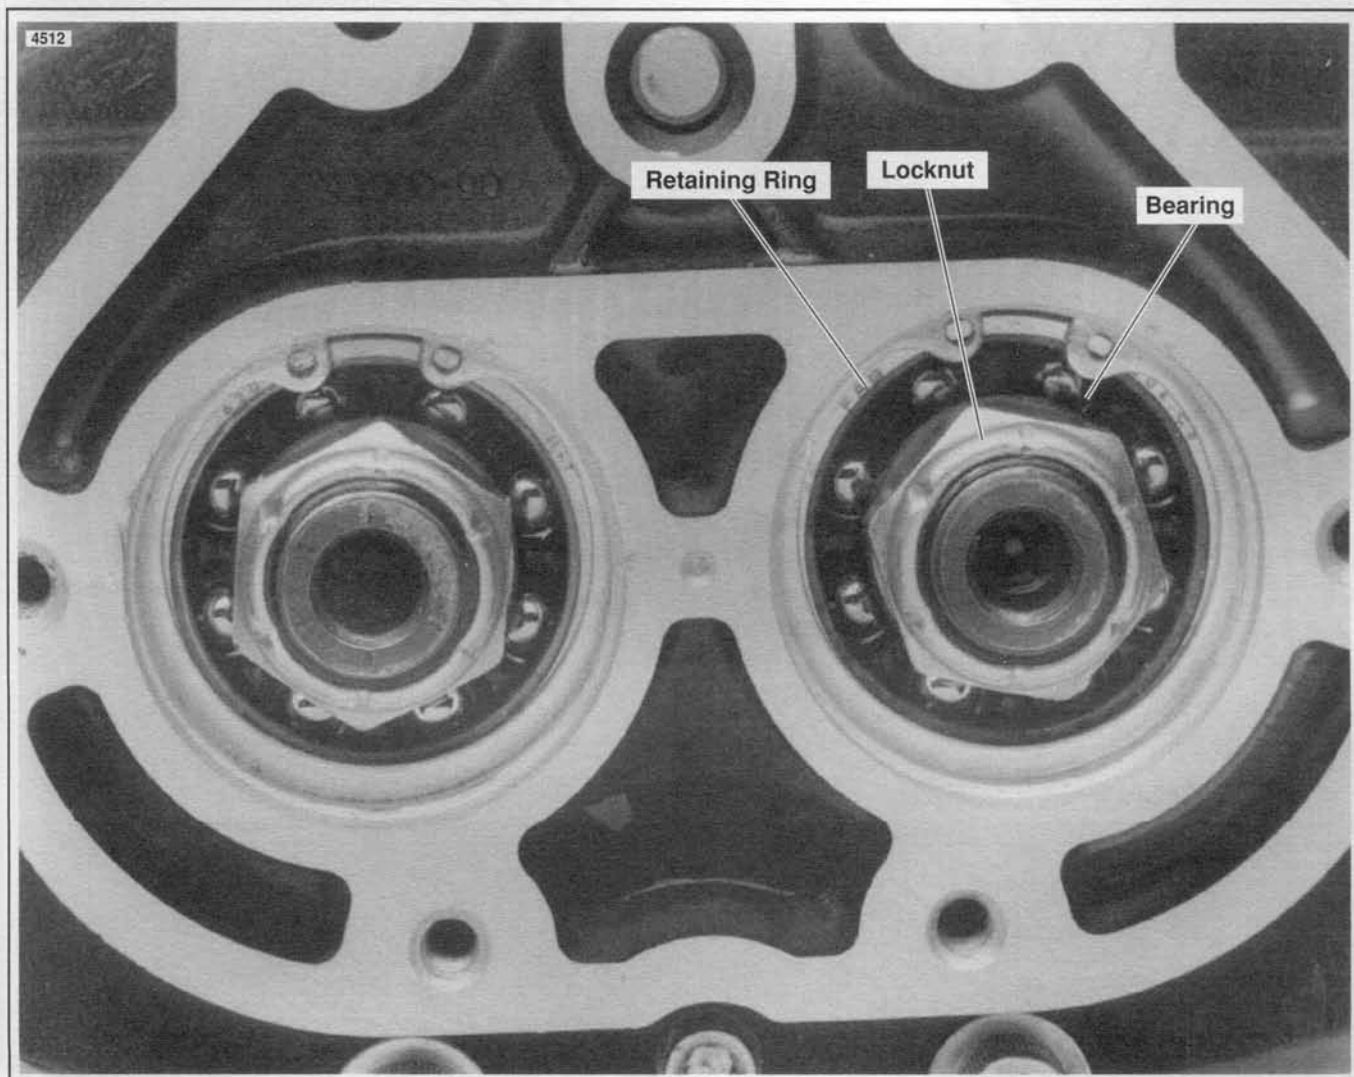

Figure 7-19. Side Door Bearings
4. See Figure 7-19. Inspect the bearings in the side door. If bearings are pitted or grooved or feel rough when turned, replace the bearings.
1. See Figure 7-19. Remove the retaining rings and press the bearings out of the side door.